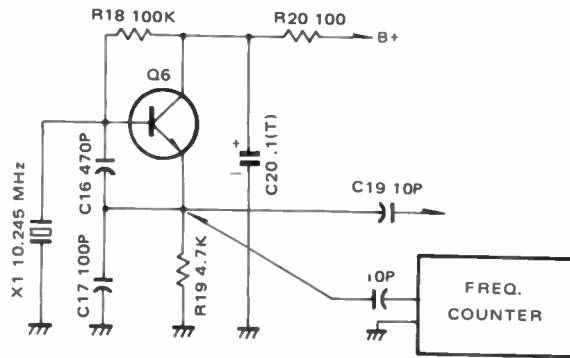

Figure 7. CONNECTION POINT
Step 1: Connect Frequency Counter through a 10pF capacitor to Q6 emitter circuit as shown in Figure 7. (10.245 MHz)